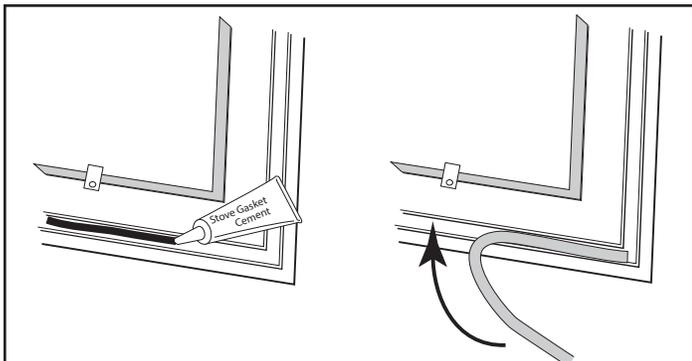

Figure 46 - Lay a bead of gasket cement then press gasket in place.
- Lay an unbroken 1/8" (3 mm) bead of silicone in the newly-cleaned channel. (Figure 46)
- Starting at one end, press the gasket into the channel. (Figure 46) Ensure a good joint where the gasket meets before trimming any excess. Do not overlap the gasket ends or leave ends with ragged edges.